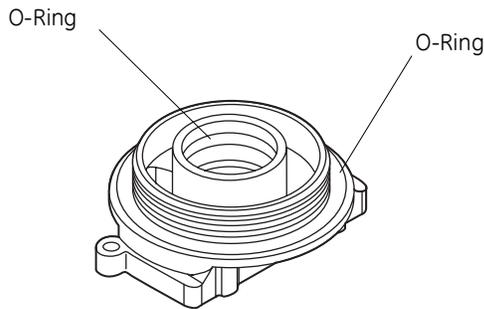

Figure 5
2. Apply silicone grease to all O-rings (Figure 5), the bevel on top of the tank and to the top 1 inch of the riser pipe.